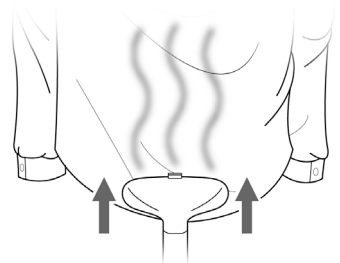

FIGURE 11
3. Direct Steam Nozzle towards bottom of garment. Steam will rise along inside and outside of fabric, removing wrinkles. Slowly slide Steam Nozzle vertically, from bottom to top of garment (FIGURE 11).